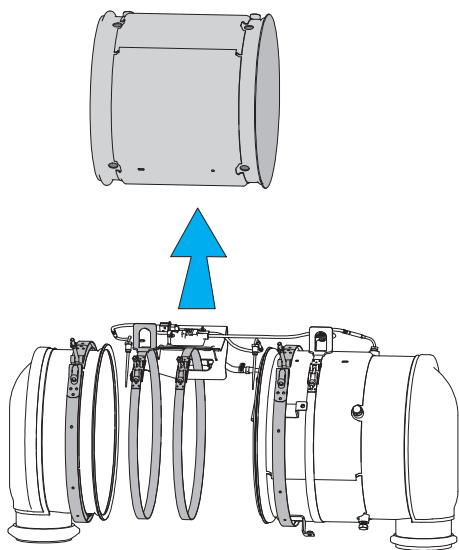

Figure 16 Detaching Diesel Particulate Filter
3. Disconnect the straps securing the DPF. See Figure 16.